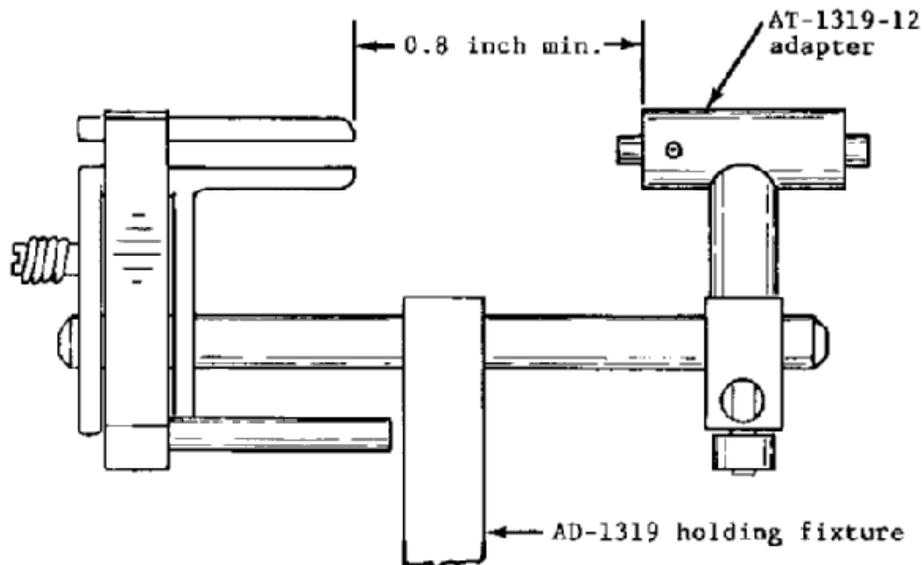

Figure 5-8. Setup Dimensions for AD-1319 Holding Fixture
1. If the AD-1319 holding fixture is to be used, install the AT-1319-12 adapter and set the dimensions as shown in Figure 5-8.